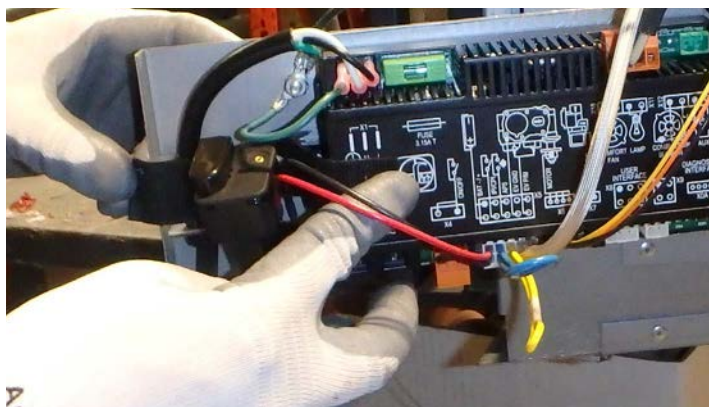

Figure 20.6.02:
5. Undo the velcro strap retaining the battery holder. See **Figure 20.6.02**.